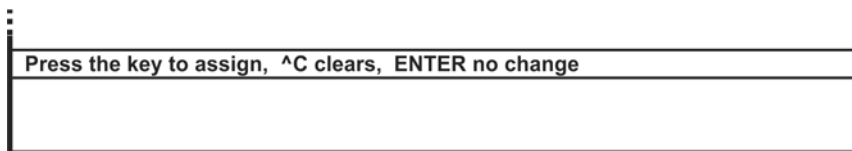
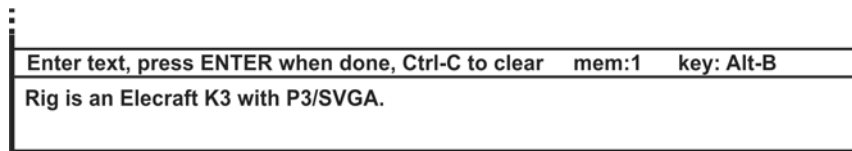

Figure 5. Assigning a Recall Key.
Figure 6. Editing a Message.
- Press the key(s) that you want to use to recall this message. In the example shown in Figure 6, the ALT-B key combination was assigned to the message. If the name of the key does not appear when it is pressed, it has already been assigned to another message. You must choose a different key.
- To edit a message, select it and return to the key assignment (Figure 5) or editing (Figure 6) screens and make the desired changes. To erase a message select it and, at the key assignment window, press Ctrl-C.
Assign a macro memory to the F1 key (see Figure 5) and enter and save the following macro (see Figure 6):